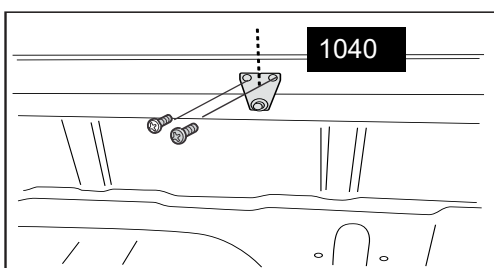

Fig.3 - Gas strut bracket fitment
Using a **2 mm** diameter drill bit set to **5 mm** drill stop. Drill two pilot holes. Attach small gas strut bracket using self drilling screws provided. Repeat process on other side of tray. **Refer to Fig. 3 and Fig.4**
2. Remove hinge pins (1) and remove tonneau cover (2). Refer to figure 3.